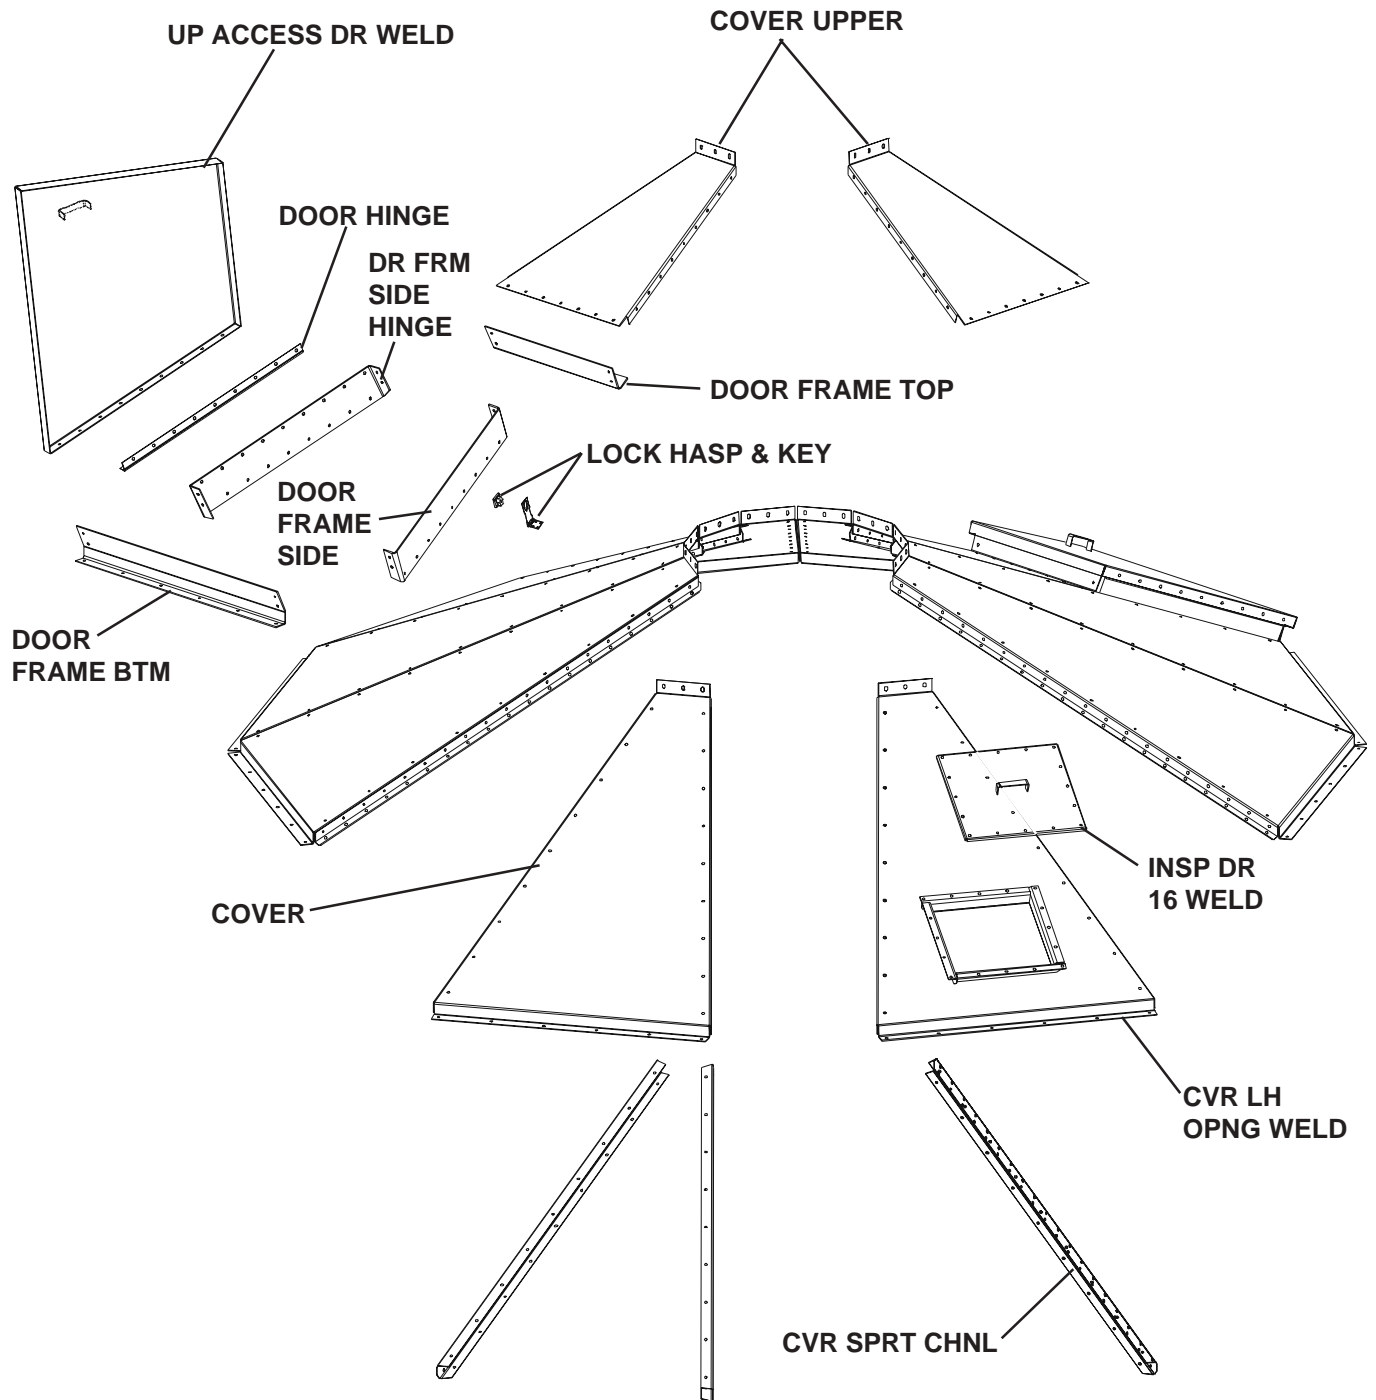

Fig. 10-4
9. Select a standard COVER sheet and install it on the opposite side of the Drive Mount in the same fashion. Note that the Roof Sheets are universal, as are the Cover Support Channels. This will leave holes which are not used in the installation. Remember, DO NOT install the Bin Bolts above the Drive Side Plates. On the largest units, roof cover sheets are made up in two parts. (See Fig 10-4)
11. The Access Doors are assembled by bolting the **DOOR FRAME BTM** on the Mid Channel flange over sealant. The **DR FRM SIDE HINGE** bolts to the left side of the opening over sealant using the 3/8" x 1-1/4" Gr. 5 Bolts extending through the Roof sheet flange and an added Stiffener Channel. The connection between the Door Frame Bottom and Side requires the Flanged Nuts to be on the inside for proper door installation. The **DOOR FRAME SIDE** installs in the same fashion on the right side of the opening. (See Fig 10-4)
14. The DOOR HINGE attaches to the UP ACCESS DR WELDment using 3/8" x 1-1/4" Gr. 5 Bolts and Flanged Nuts. The hinge is oriented with the hinge pin adjacent the edge of the Door Weldment and the nuts to the outside of the door. This assembly is then bolted in place on the Door Frame Side. (See Fig 10-4)
15. The Door installation is completed by attaching the **LOCK** and **HASP**. Close the Door and hold the Lock on the edge of the door in the area of the Door Handle. Using two (2) of the Pancake Head Self Drilling Screws provided, fasten the lock to the side of the Door. Break off the excess screw on the inside of the door. Place the Hasp over the Lock and drive two (2) more fasteners in the outer holes of the Hasp. Check the Lock for proper operation. (See Photos on page 59.)